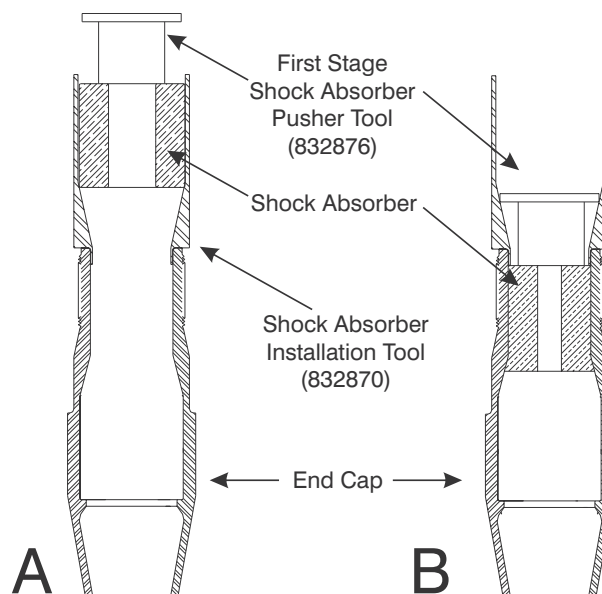

Figure 9-2. Press the Shock Absorber into the End Cap.
3. Center the First Stage Shock Absorber Pusher Tool 832876 over the Shock Absorber as shown in Figure 9-2 -A.
4. Press the Shock Absorber into the End Cap as shown in Figure 9-2-B.